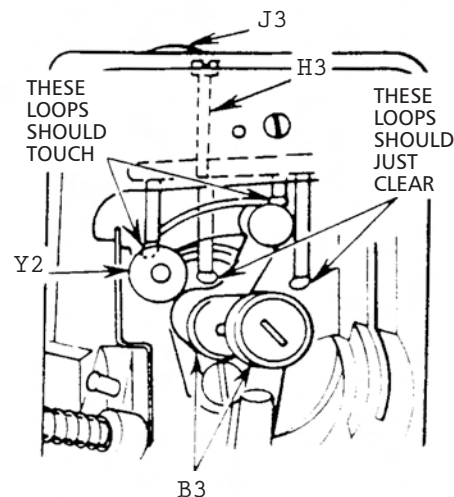
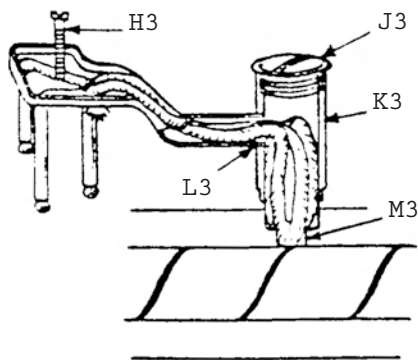
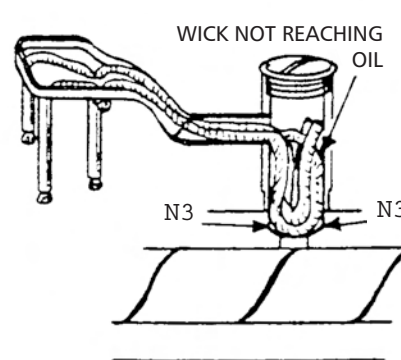

Fig. 24
Fig. 25 Correct Installation
Fig. 27 Incorrect Installation
When replacing arm side shield wick, make sure that lower end of wick drops into oil pool beneath needle bar crank and that the two upper wick loops are located as close as possible to the needle bearings at B3, Fig. 24 without touching them. Also make sure that the edge of arm side shield G3 is pressed firmly against the side wall of the arm to ensure proper position. Then replace and securely tighten screw F3.
TO REMOVE OIL WICK HOLDER (See Fig. 24)
Oil wick holder includes two oil wick leaders (see Fig. 25) and an oil wick for the needle bar link and for the two sets of needle bearings in the thread take-up as shown in Fig. 24. It is removed in the following manner:-
2. Remove top arm plug screw J3, Fig. 25.
3. Insert two oil wick leaders into oil tube K3, as shown in Fig. 25 so that wick is slack over edge of oil tube K3 at point L3, Fig. 25. This will insure free passage of oil. Use tweezers through the screw hole at J3 to loop the wick and bring it into positive contact with the arm shaft approximately at point M3 shown in Fig. 25.
CAUTION: If the bottom of either oil wick leader is caught on the ledge as shown at N3, Fig. 27, no oil can be taken up by the wick to be carried to the needle bar link and thread take-up bearing, where it is needed. Make sure that the oil wick leaders are pushed all the way down into the smaller hole, without jamming, until they touch the arm shaft, as shown in Fig. 25.
4. When oil wick leaders are correctly installed, replace holder screw H3, Fig. 25.
5. Adjust the three oil wick loops in holder (see Figs. 24 and 25), so that two of the loops come as close as possible to, without touching, the two sets of needle bearings B3 while the third wick loop makes positive contact with the wick inside the stud Y2, in the needle bar link, as shown in Fig. 24.